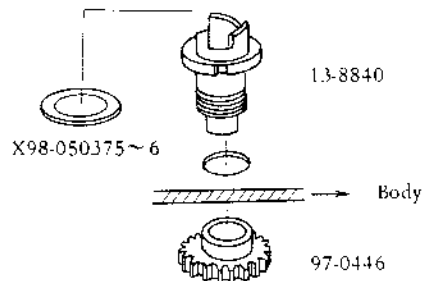

Fig. 1
- 2) Mount Sprocket Clutch (13-8840) as shown in Fig. 1.